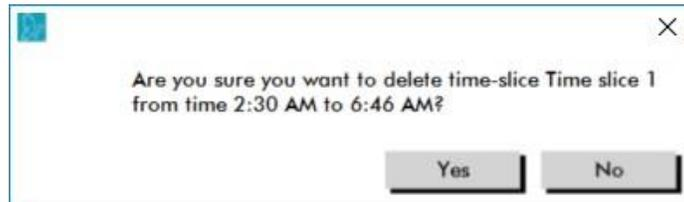

Figure 17: Deleting Time-Slice (Configuration Window)
1. Open a study in the **ABP Data** tab. Within the **Overview Graph** tab, navigate to the **Time-Slice** tab located to the right of the graph view. (Figure 17).
1. Open an ABP study and click the **Time-Slice** tab (Figure 17).